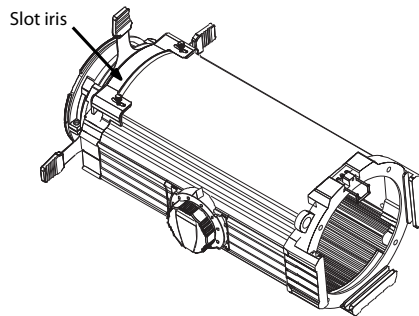

Fig.6
2. Rotate the barrel to the desired position (fig.6).